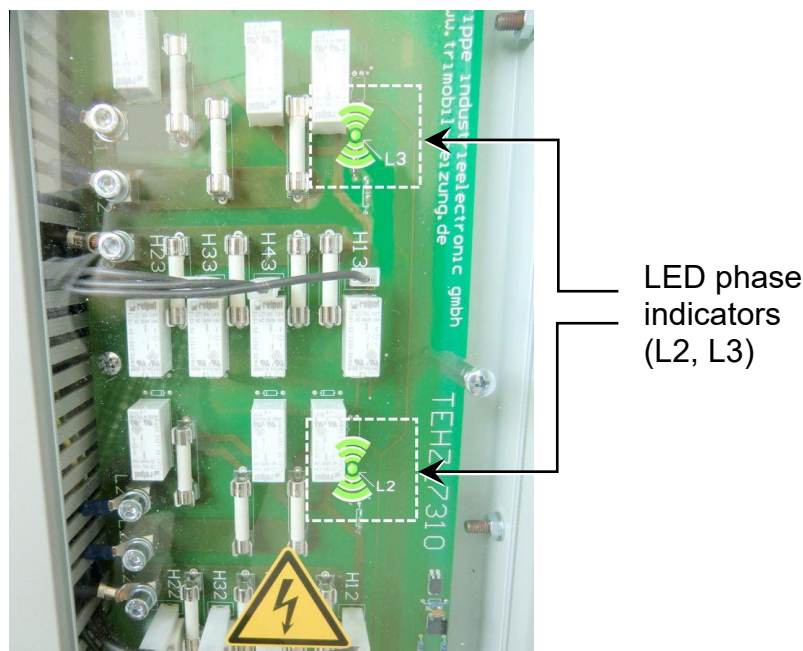

Fig. 10): LED phase indicators on the relay circuit board
- Visually inspect the two LED phase displays on the relay PCB, as shown in Fig. 10 on the following page: